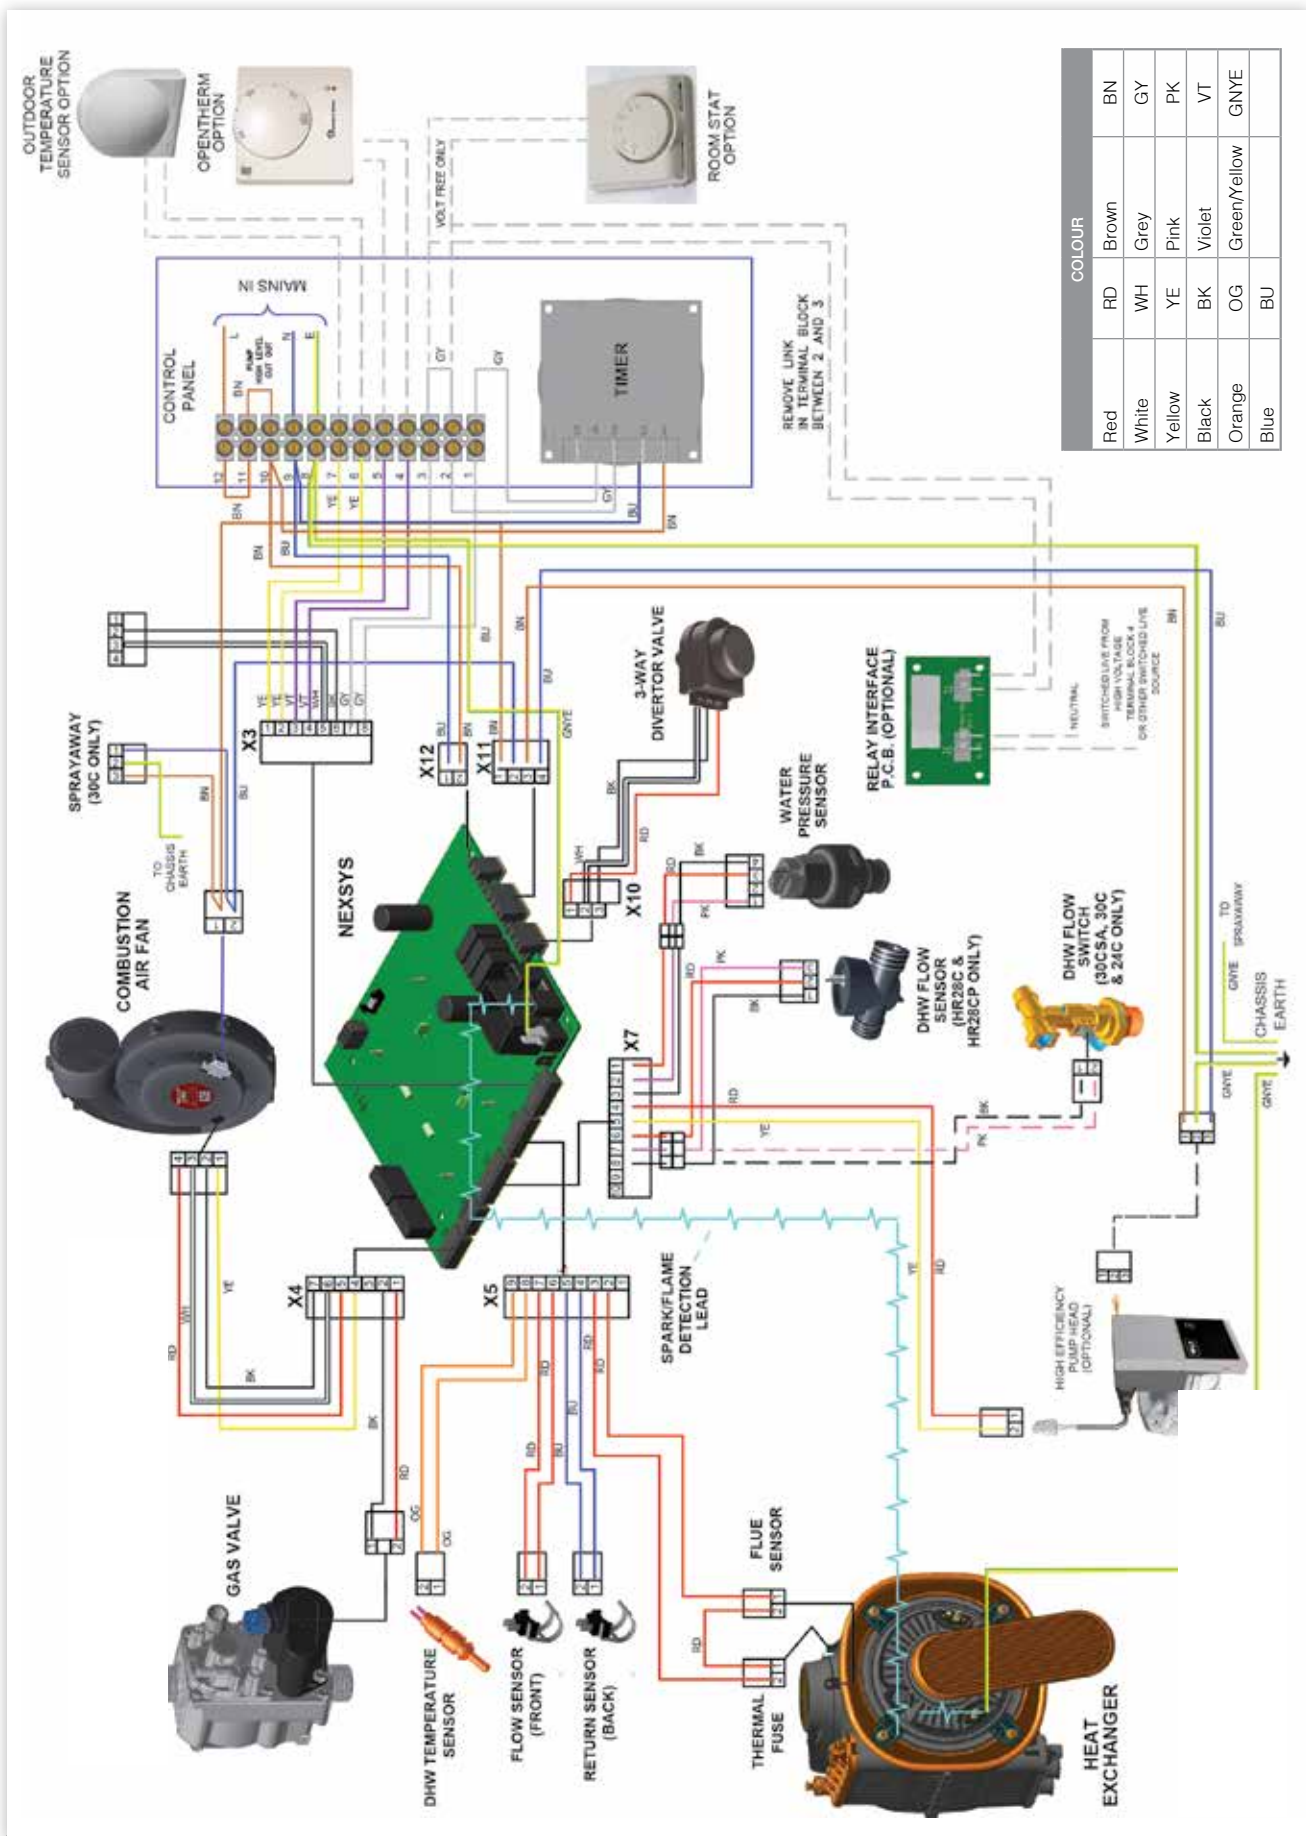

FIGURE 22. WIRING DIAGRAM
- b. Connect room stat across terminals as shown in diagram. See Figure 22.
- b. Connect room stat and programmer in series as shown in diagram. See Figure 22.
- b. Connect frost stat in series with room stat as shown in diagram. See Figure 22.